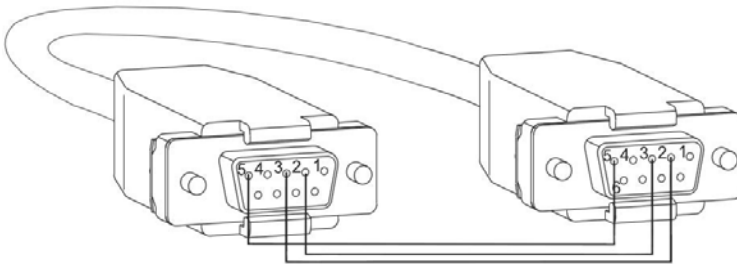

FIG. 175 RS-232 pinout for null modem serial cable
1. Attach a null modem serial cable matching the RS-232 pinout (FIG. 175) to the Control port on the enclosure's CPU and attach the free-running end of the cable to a PC.